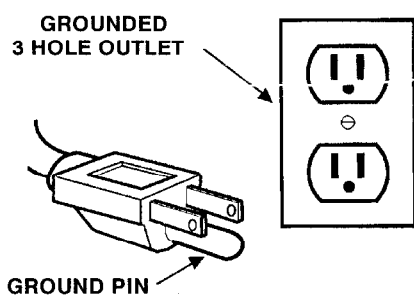

FIG. 2.
2. Plug power cord into a grounded (earthed) outlet. Figure 2